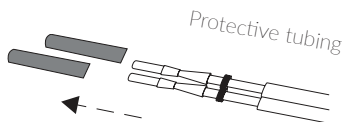

Figure 4-4
5. Once the harness has been routed into the vehicle, remove the protective cover from the pin. See Figure 4-4.